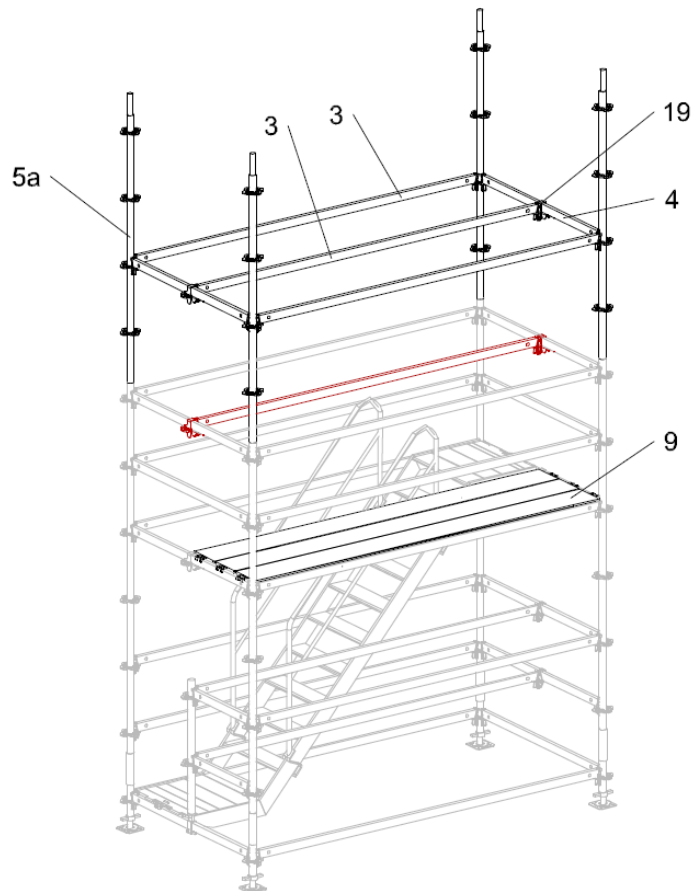

Fig.B3-1
Attach the internal Ledger UH 300 (3), connected to the end Ledgers UH 150 (4) with Ledger to Ledger Coupler UHA Half (19). (Fig B3-1)